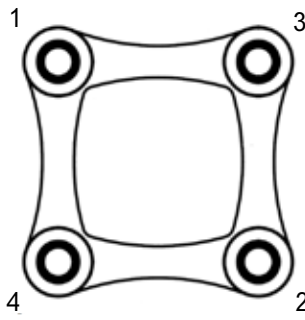

Figure 11 –
- 9.9. Slightly tighten all locknuts using an alternating progressive pattern on each disc pack as shown in Figures 11, 12 and 13 making sure the disc pack is not distorted and all the bolts are fully seated. Tighten each locknut to the appropriate torque value shown in Table 5, using an incremental torque in a progressive alternating pattern as shown in Figures 11, 12 and 13.
- 10.10. Slightly tighten all locknuts using an alternating progressive pattern on each disc pack as shown in Figure 11, 12 and 13 making sure the disc pack is not distorted and all the bolts are fully seated. Tighten each locknut to the appropriate torque value shown in Table 5, using an incremental torque in a progressive alternating pattern as shown in Figures 11, 12 and 13.
11.7. Slightly tighten all locknuts using an alternating progressive pattern on each disc pack as shown in Figures 11, 12 and 13 making sure the disc pack is not distorted and all the bolts are fully seated. Tighten each locknut to the appropriate torque value shown in Table 5, using an incremental torque in a progressive alternating pattern as shown in Figures 11, 12 and 13.